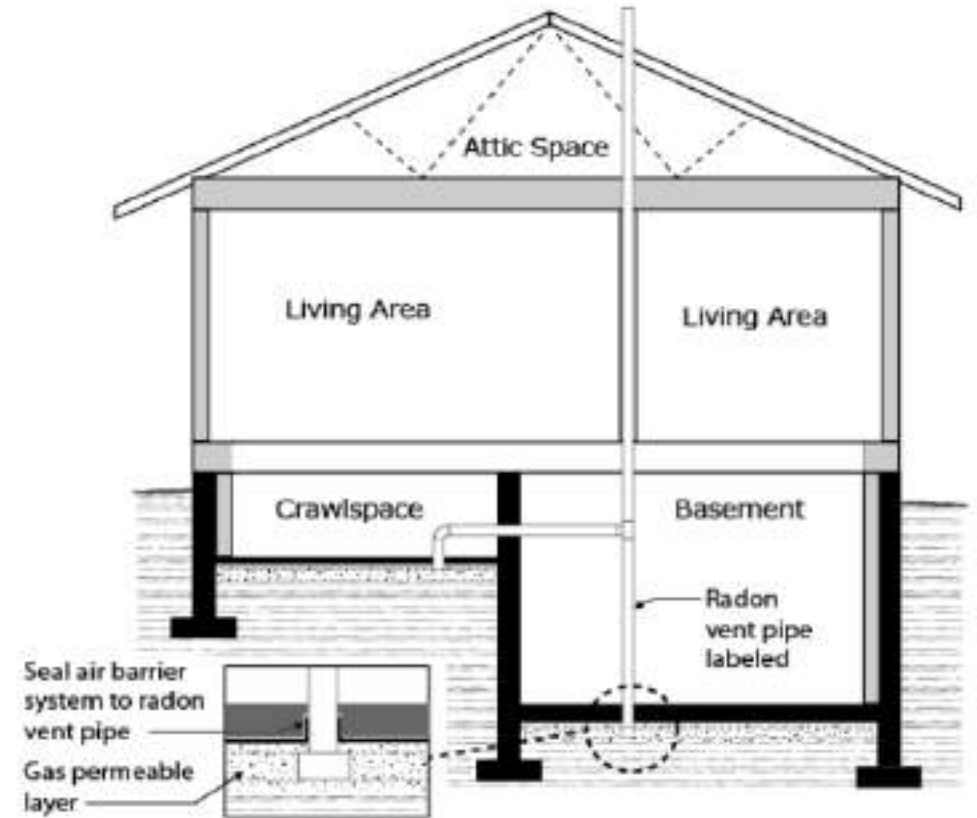

Figure 1
- space for the movement of soil gases between the ground and the air barrier system (see the gas permeable layer in Figure 1) into which a radon vent pipe is inserted;
- the radon vent pipe then extends to the exterior of the building and terminates in a safe location (as shown in Figure 1); and
The BC Building Code refers to material that creates the space allowing the movement of soil gases between the air barrier system and the ground as a gas permeable layer2 (see Figure 1). The gas permeable layer allows for effective depressurization of that space, and functions as the drainage layer required in Article 9.16.2.1. A typical solution is to install coarse clean granular material below the floor on the ground. This allows compliance with 9.16.2.1.(1)